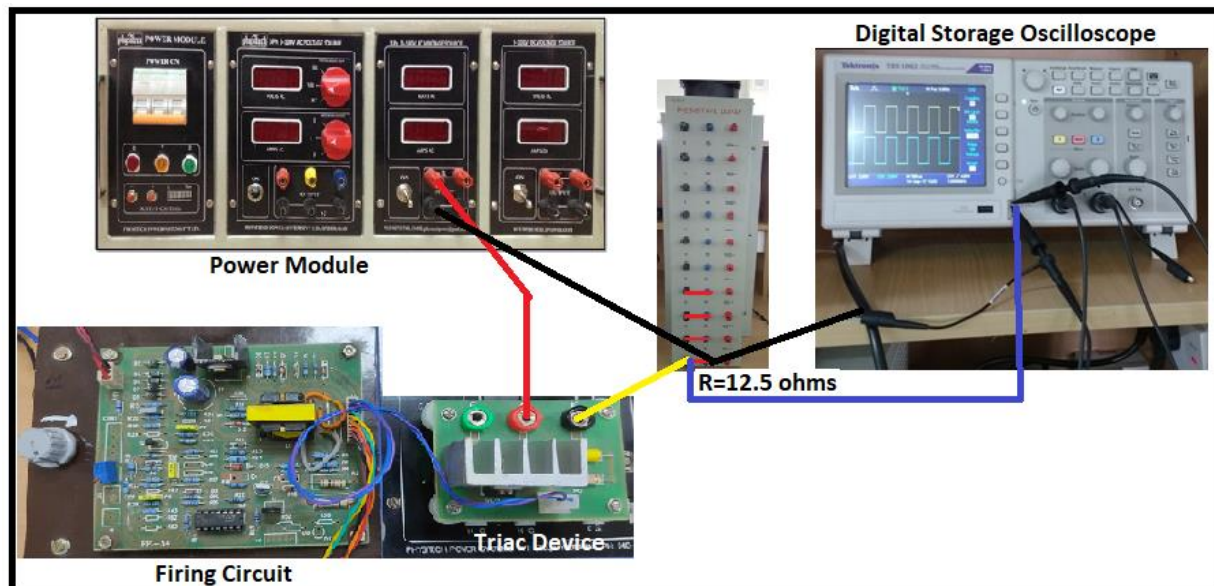

Fig. 3
1. Connect the circuit as shown in the Fig.3. (with R load ($R=12.5 \text{ ohms}$))